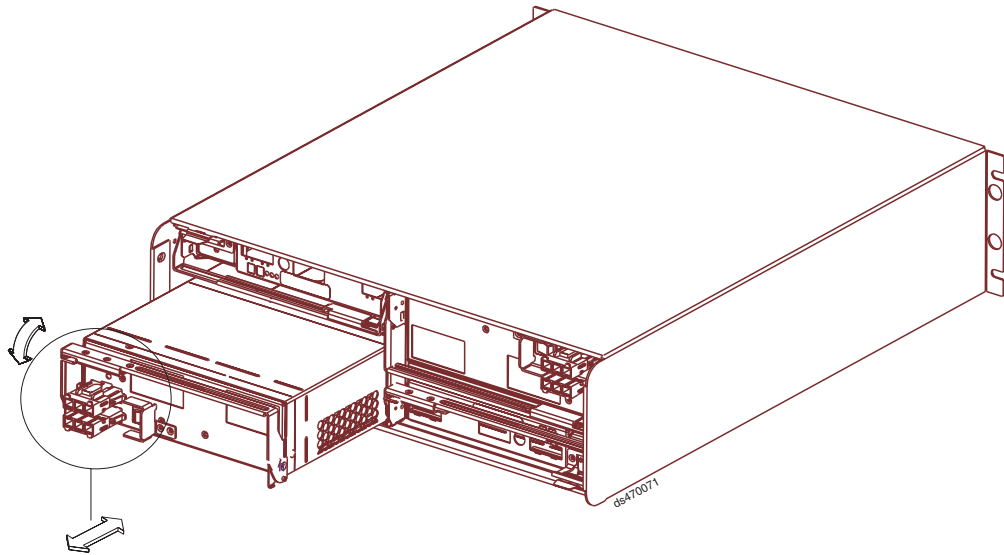

Figure 115. Replacing a dc power supply and fan unit
11. Slowly pull the lever away from the chassis to remove the dc power supply and fan unit, as shown in Figure 115 on page 174.